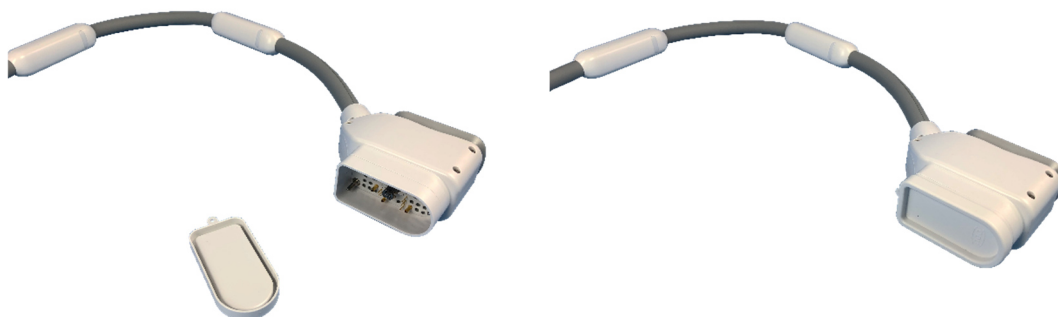

Figure C10: Surface Coil 01765 – Example of attaching cover onto coil connector (only models for GE (example shown) or Philips MR systems).
- a. Attach cover onto coil connector (see Figure C10) if applicable.